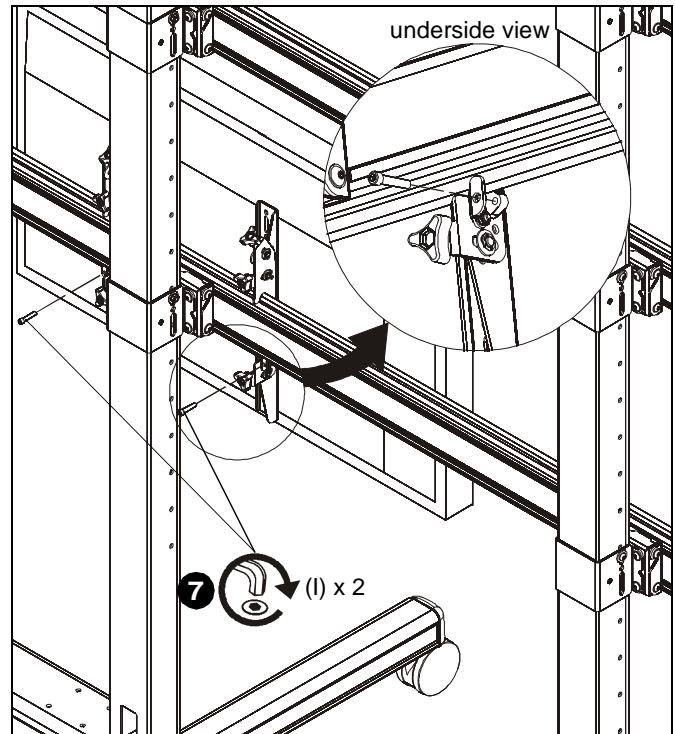

Figure 18
- Use 1/4-20 x 1 1/4" socket head cap screws (I) to secure interface brackets (AA and BB) to rails for each display. Screws must engage through both holes to be fully secured. (See Figure 18)